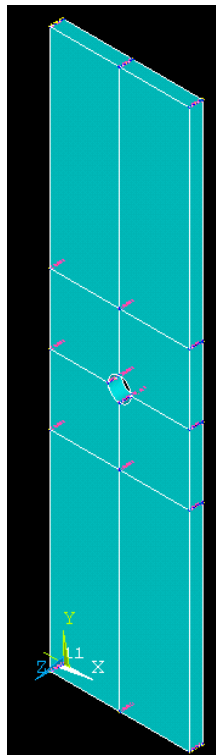

Figure 9. Through-thickness lines picked for manual seeding.
8. Select all of the lines that are parallel to the global Z-direction as shown in Figure 9. Click **OK**.